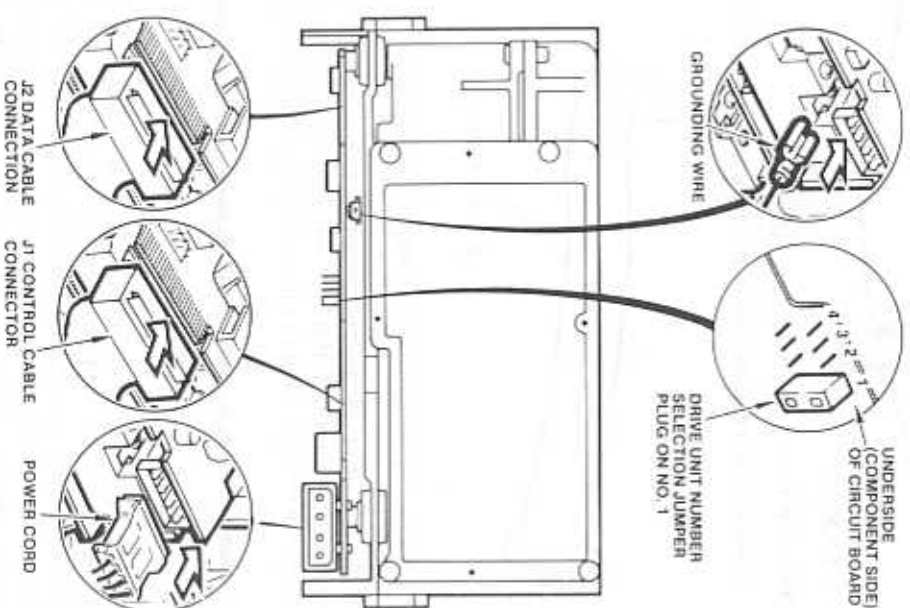

Figure 11-14. Fixed-Disk Drive Connector Locations
The following diagram shows an example of the location of the connectors and jumper plug at the rear of the fixed-disk drive (Figure 11-14). Before installing the fixed-disk drive, verify that the jumper plug for the drive unit number selection is in position one.
5. A number of multicolored 4-wire connectors come out of the power supply. Attach any available connector to the power connection on the drive (Figure 11-14). The power connector will only attach one way.
7. Attach the green ground wire by pushing it onto its tab on the drive (Figure 11-14).
1. Locate the connectors on the rear of the drive unit and set the jumper plug as shown in Figure 11-14.
7. Attach the narrow data cable and wide control cable. The red stripe indicates pin 1. The stripe faces the controller boards (Figure 11-14).
10. Attach the green grounding wire by pushing it onto its tab on drive D (Figure 11-14).